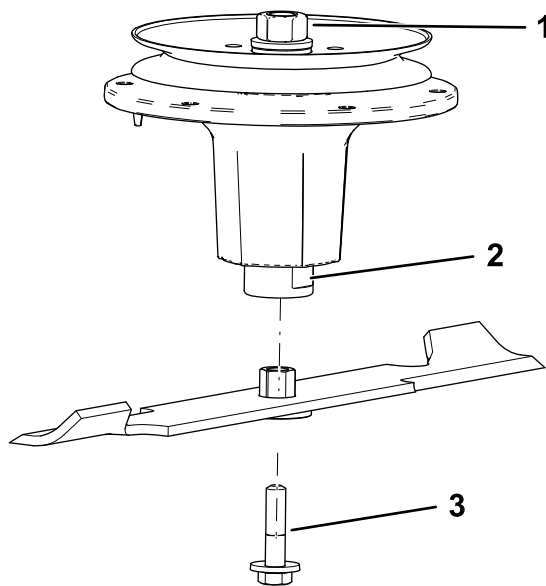

Figure 91
2. Install the bushing/blade assembly into the spindle shaft (Figure 91).